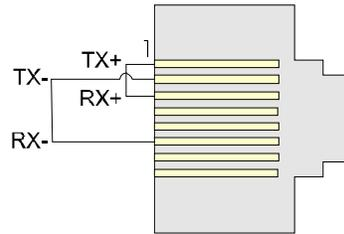

Figure 5-24. RJ-45 Ethernet Loop-back Plug
This test configures the Ethernet port's ability to transmit and receive via the twisted pair. The text transmits frames and compares them against received frames. You need a special loop-back plug (shown in Figure 5-24) to perform the Ethernet loop-back test:
1. Connect an external Ethernet loop-back plug (see *Figure 5-24*) to the Ethernet port on the CPU module to be tested.